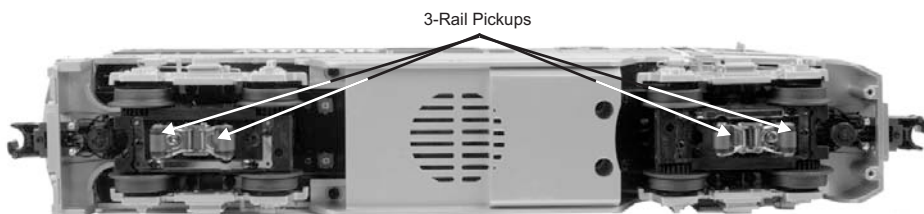

Figure 5: 2-Rail/3-Rail Operation
1. Remove the center rail pickup roller assemblies as seen in figure 5 (below).